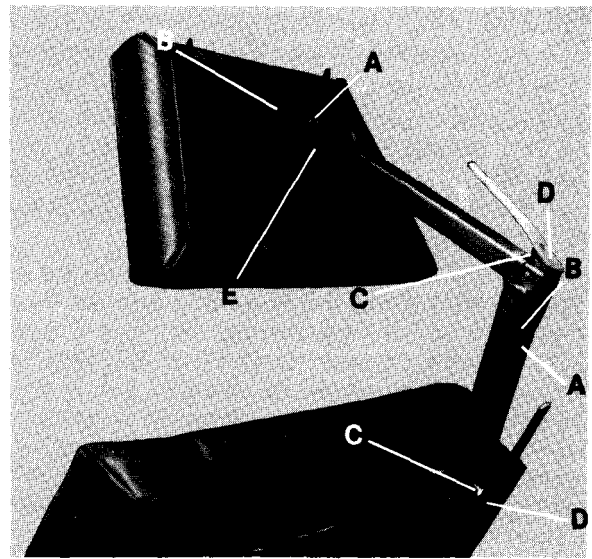

Fig. 1
For proper action the handle stop must be adjusted so that when the handle is pushed down for locking action, the handle reaches a point where it wants to lock itself by suddenly going over center. The proper position of the stop is just a fraction over center. The stop is adjusted by loosening the lock nut Item C, Fig. 1 and turning the set screw Item D, Fig. 1 with a 1/8" allen wrench. After adjustment, lock the stop screw with the lock nut.
Model 111: To adjust the holding action of the headlock, release the lock handle and loosen the lock screw Item A, Fig. 1, using a 3/32" allen wrench. With a 3/16" allen wrench or a 1/2" wrench, tighten the adjusting screw, Item B, Fig. 1, to obtain the greatest possible holding power without making the handle operation too difficult. Then with the handle in locked position, tighten the lock screw.
If quick change pin will not pull out of headlock, loosen lock screw, Item A, Fig. 1 & 2, and loosen adjusting screw, Item B, Fig. 1 & 2, until pin will slide out. Readjust adjusting screw so that headlock will hold when locked but pin will slide out when unlocked.
- 1) Remove the (4) screws, Item E, Fig. 1, which mount the headrest to the brackets of the headlock.